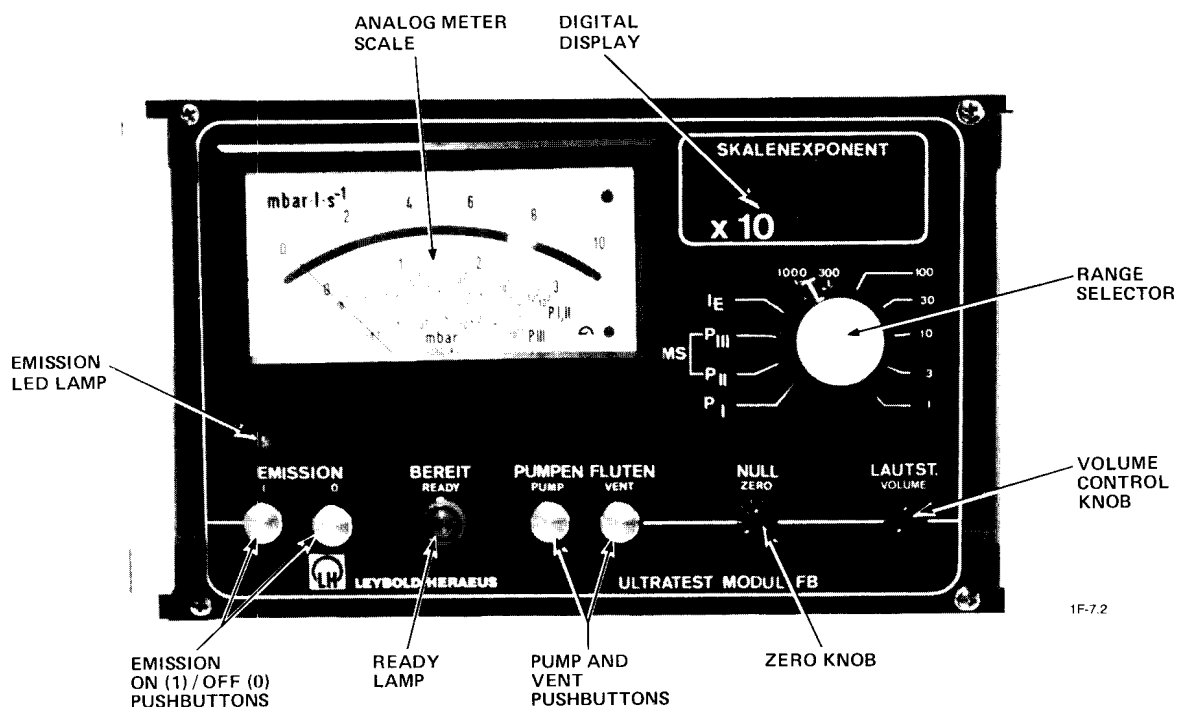

Figure 4-3 - FB MODULE CONTROLS
The meter on the FB module has four scales, as well as a red and green LED lamp. The position of the range selector switch determines which scale you read (see Figure 4-3).
- d. Press the EMISSION "1" pushbutton on the FB module to turn ON the emission in the ion source (see Figure 4-3); the "KATODE" and EMISSION LEDs on the MS module and the EMISSION LED on the FB module will light.
2. Set the range switch on the FB module to the range of the leak that you are trying to find, for example  $10^{-8}$  (see Figure 4-3 and Section 4-1-2).